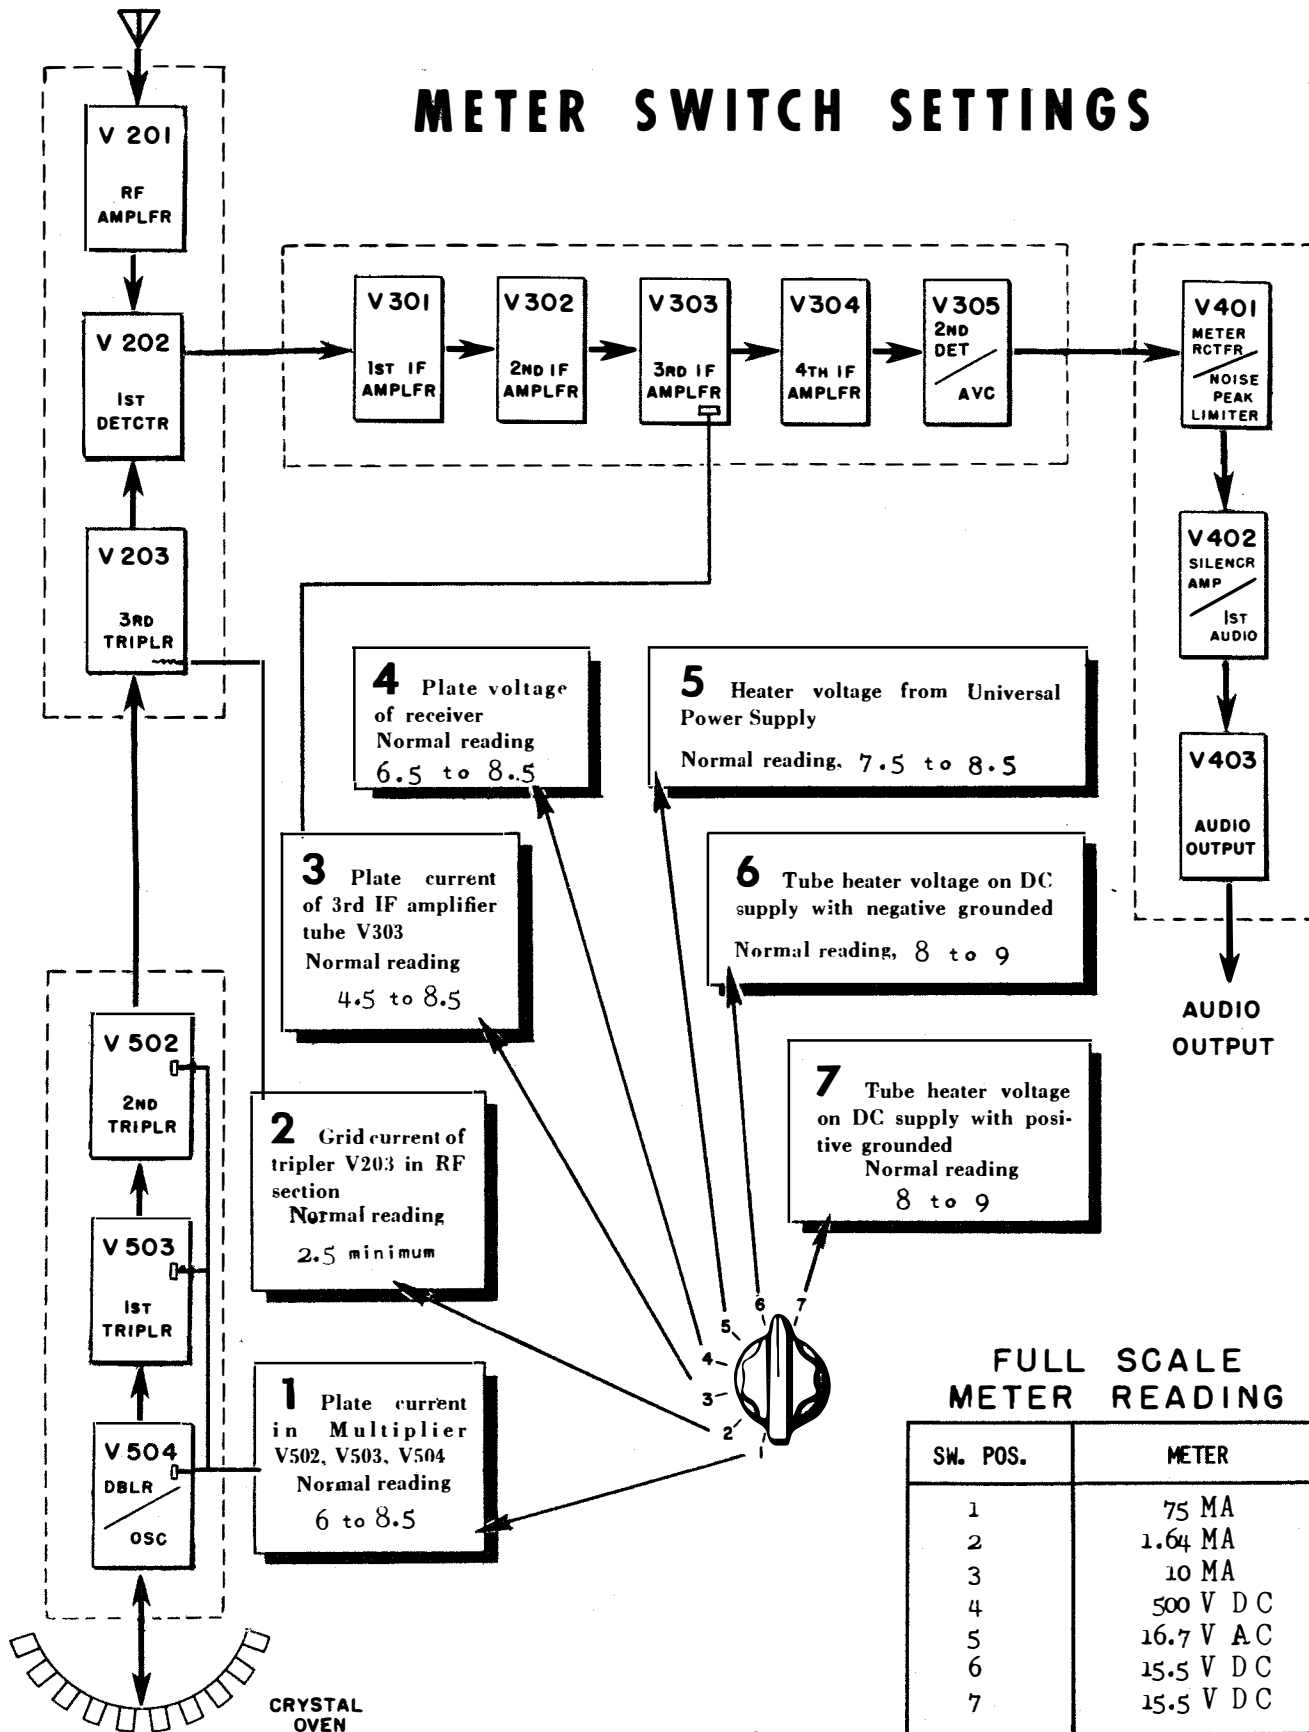

Figure 4-4. Meter Switch Settings
(3) VOLTAGE CHECK.—Observe if the panel light is on and check the heater and plate voltages by means of the meter and meter switch. Compare the meter indications obtained at each switch position with the readings recorded on the card on the channel selector cover. In the absence of the card, refer to Figure 4-4 which shows switch positions and minimum and maximum permissible indications for each switch setting.